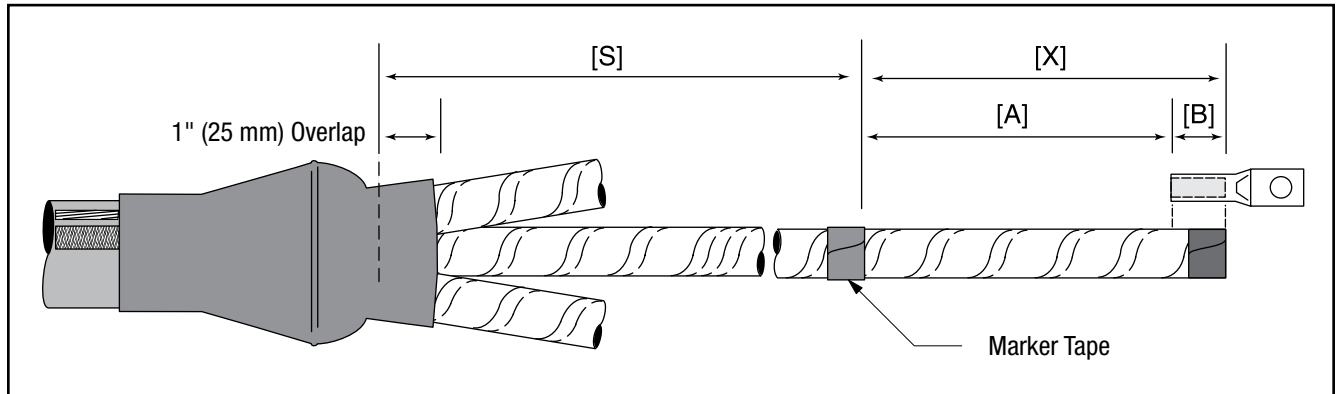

Figure 12
5.2 Place a vinyl tape marker on each cable phase leg at dimension [X] (*Figure 12*).
5.3 Determine required rejacketing sleeve length for each phase leg (Distance [S], *Figure 12*). Be sure to include 1" (25 mm) breakout boot finger overlap in measurement.